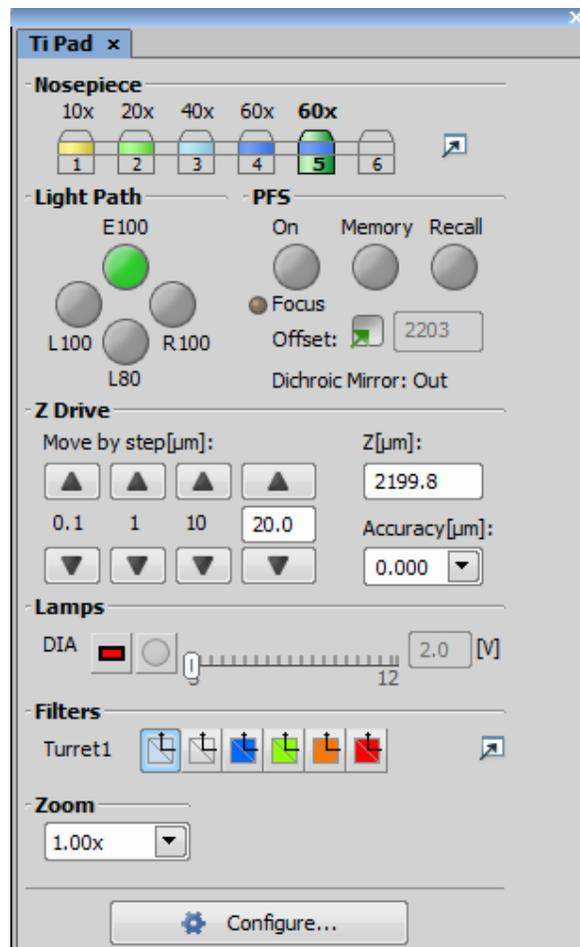
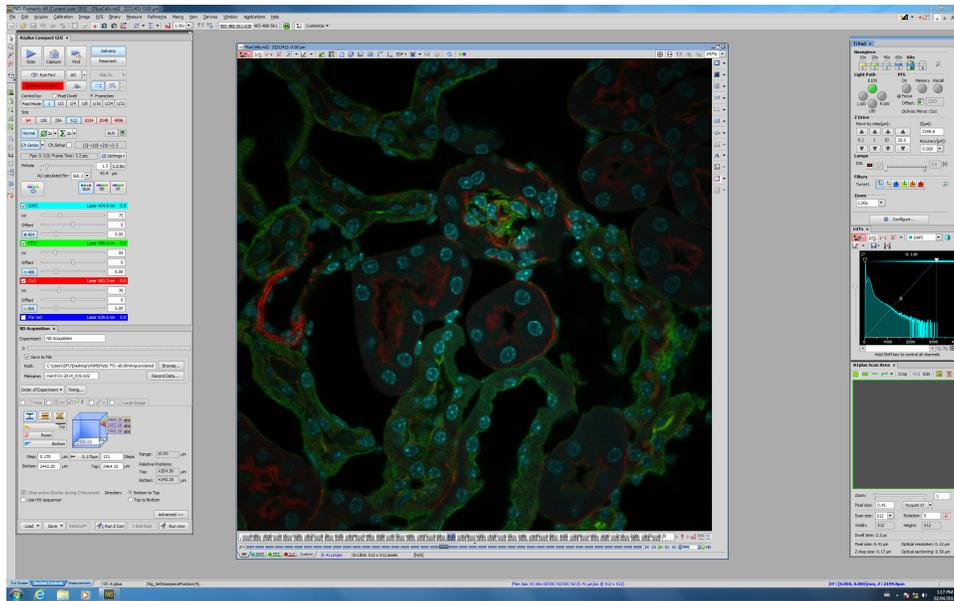
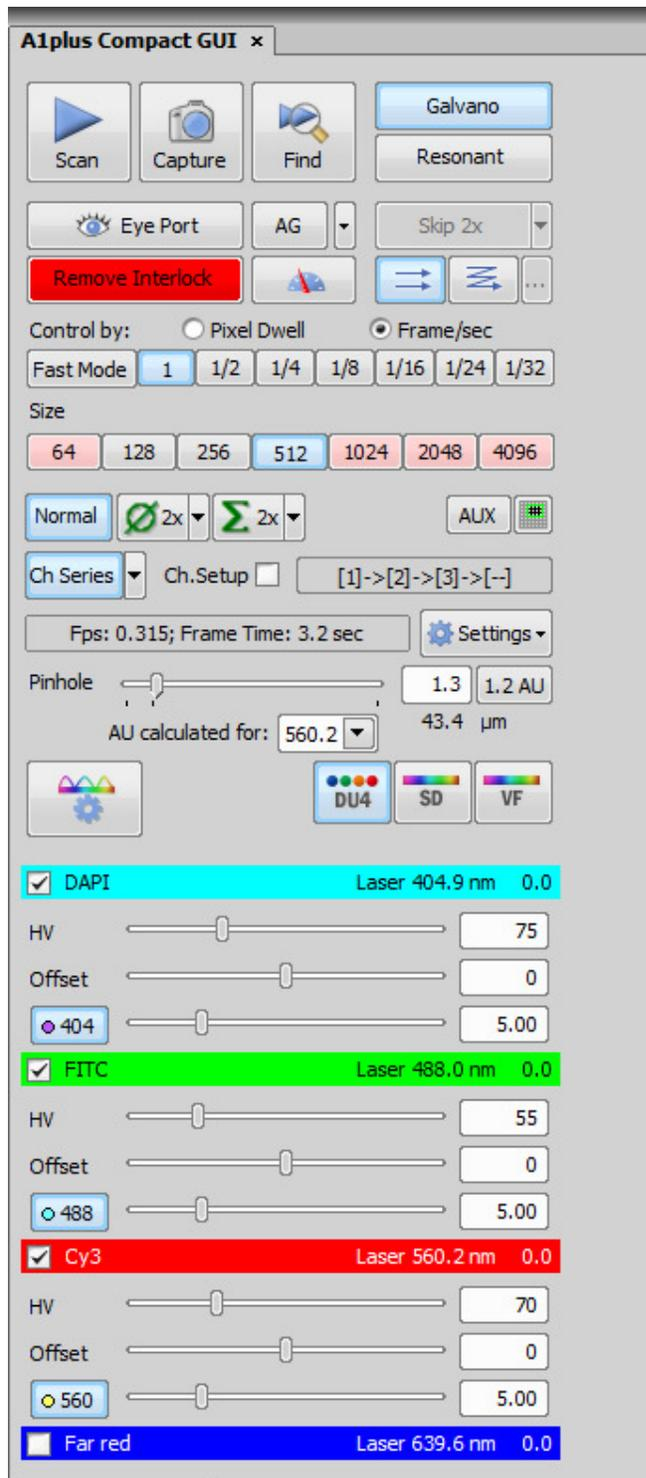

Figure 20. The Ti Pad dialogue box.
Figure 21. Layout of the all the controls and dialogue boxes of Elements C 4.2
Figure 22. A1Plus Compact GUI for controlling confocal imaging.
To achieve proper illumination of the samples (Kohler Illumination), several adjustments must be made. Use your 10x objective to start and put the condenser turret (Figure 19C) in the A position. Make sure the light path is on the eyepiece (Figure 6) and select DIC from the list of optical configurations at the top of the Nikon Elements software (Figure 21).
The software is Nikon Elements C version 4.2 (Figure 21). Most dialogs can be found under the View tab (Acquisition/Analysis/Visualization Controls) in Elements. As a shortcut these can also be found by right clicking in the open space of Elements. Elements obeys most Windows-based functions, shift/control and Alt are used often; right-clicks are used to display options/properties. Elements also uses “drag and drop” for overlaying windows and datasets
The Ti Pad (Figure 20) can control almost anything on the microscope from within the software. The Ti Pad state shown in Figure 20 is the default state at startup if no changes have been made on the microscope. Each button is clickable (i.e., click on 20x to move to the 20x objective). The Light Path is dependent on the type of imaging you want to do:
5.8.2 A typical layout for all the necessary controls and dialogue boxes is shown in Figure 21.
The A1plus Compact GUI (Figure 22) is a wizard that will walk you through acquiring a confocal image.
Make sure you have previewed your slide through the eyepieces and focused on an area of interest. Click on the L100 lightpath button of the Ti Pad (Figure 20), click the empty position for the filters turret, close the intensilight shutter if used and turn off the halogen bulb. Click on "Remove Interlock" in the GUI (will change from red to grey, Figure 22). Choose Galvano for standard imaging. Click the '405-488-561-640' optical configuration button (the top of Figure 21) and select or deselect the DAPI, FITC, Cy3, Qdot channels as desired. Set the HV-Gain at 90 to start. Set the offset-background adjustment at 0. Set the laser power for each channel at 5% to start. Start with a scan size of 512x512 and scan speed 1 frame/sec. Select "Normal" and "Ch Series". Select 1.0 AU for Pinhole. Start "SCAN" and a live scan window will appear. Adjust settings if needed.
5.8.4 To view the channel setup, use the “Setting”  button on the A1 Simple GUI (Figure 22)